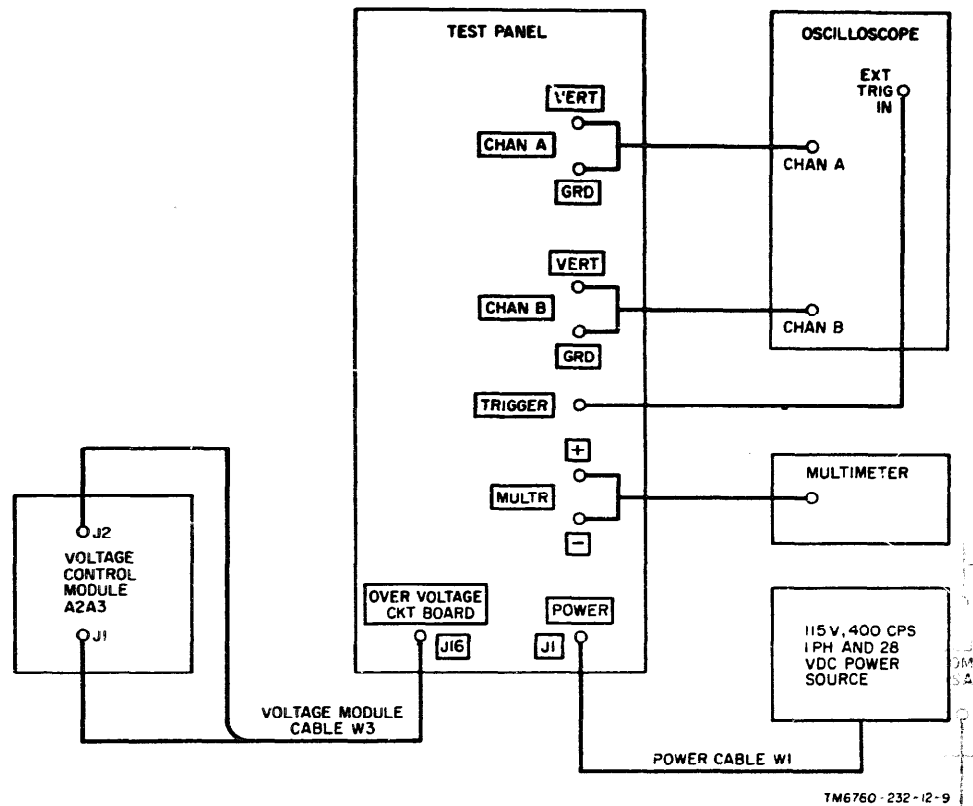

Figure 3-7. Voltage control module A2A3 test, interconnection diagram.
3-8. Voltage Control Module A2A3 Test (fig. 3-7)
b. Remove voltage control module A2A3 from pod assembly and connect for voltage control module test as shown in figure 3-7.